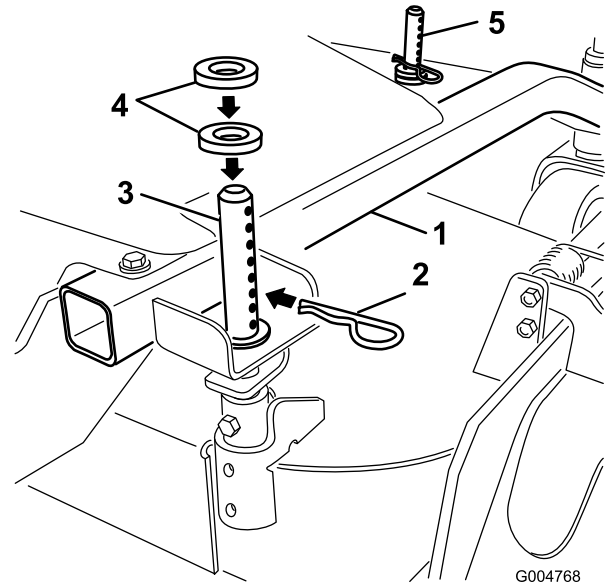

Figure 10
1. Select hole in height-of-cut post and number of spacers corresponding to the height-of-cut desired (Figure 10).
2. Using the lift handle, raise side of deck and remove hairpin cotter (Figure 10).
3. Add or remove spacers if needed and then align holes and insert hairpin cotter (Figure 10).